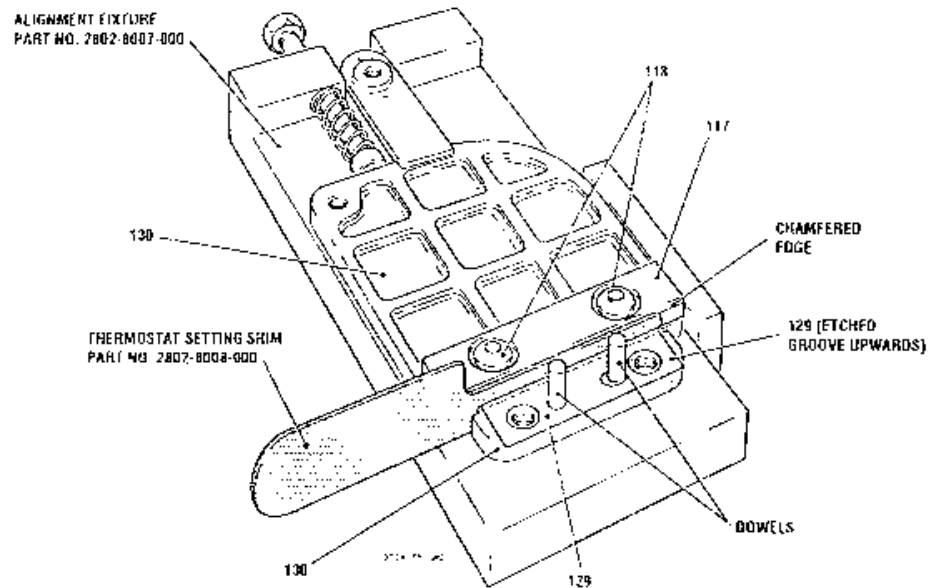

Fig. 3.30 Setting The Hinge Gap
- 4 Position the thermostat boss (130) on to the dowels of the alignment fixture Part No 2802-8007-000 and manoeuvre its matched thermostat flapper (117) into the alignment fixture against the spring pressure, as illustrated on Fig. 3.30
- 5 Position the hinge strip (129) on to the dowels over the thermostat flapper and boss ensuring that the etched groove in the hinge strip is facing upwards
- 6 Position the hinge plate flapper (117) on to the hinge strip with the chamfered edge of the hinge plate flapper adjacent to the dowels as illustrated in Fig. 3.30 and loosely fit the hinge plate flapper securing screws (118)
- 8 Release the thermostat flapper and torque tighten the hinge plate flapper securing screws (118) to 2.0 Nm using tool Part No 2802-8053-000. Remove the thermostat